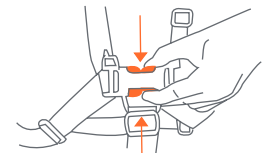

Fig. 15
- 15) • To release, apply pressure to both sides of each male clip until the clip is released (Fig. 15).